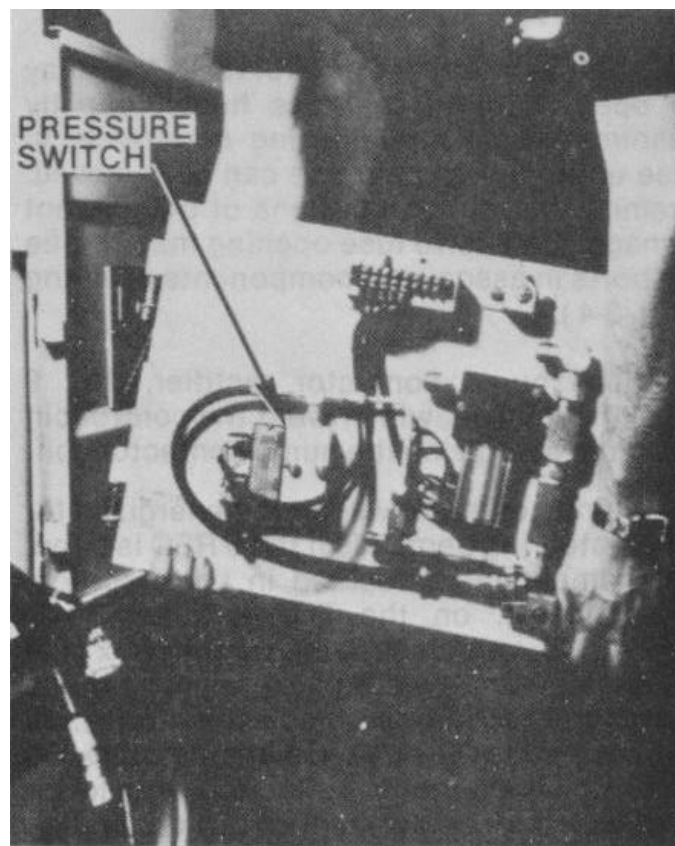

Figure 3-15
3.40 Loose pressure switch electrical connectors will cause the pump motor to cycle excessively (Fig.3-15). The power steering system can operate if the high pressure switch (PS1) is disconnected. Operation will be through the action of the low pressure switch (PS2).